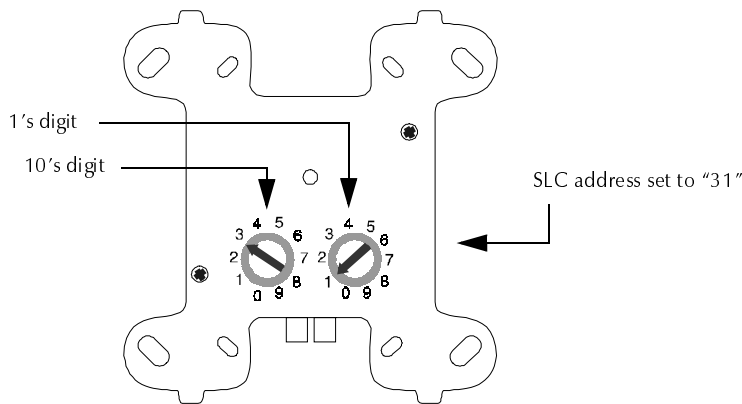

Figure 25 Module Addressing Switches
**Setting detector and module addresses** Make sure to change the decade wheels on all detectors and modules from the factory setting of “00.” For instructions for setting decade addresses, refer to Figure 25 on page 42.
MMX and CMX modules provide two rotary decimal switches that you can use to set the SLC address of the module. Addresses from 01 to 99 may be set by positioning the left rotary switch to the value of the '10s' digit and the right switch to the value of the '1s' digit. For example, in Figure 25, address 31 is set by turning the left switch to 3 and turning the right switch to 1.
**SLC Connections** Connect the AFP-100 SLC to MMX-2 terminals 1 (–) and 2 (+). The MMX-2 occupies one module address on the SLC. To set a module to the required SLC address, use rotary switches on the MMX-2 as shown in Figure 25, “Module Addressing Switches,” on page 42.